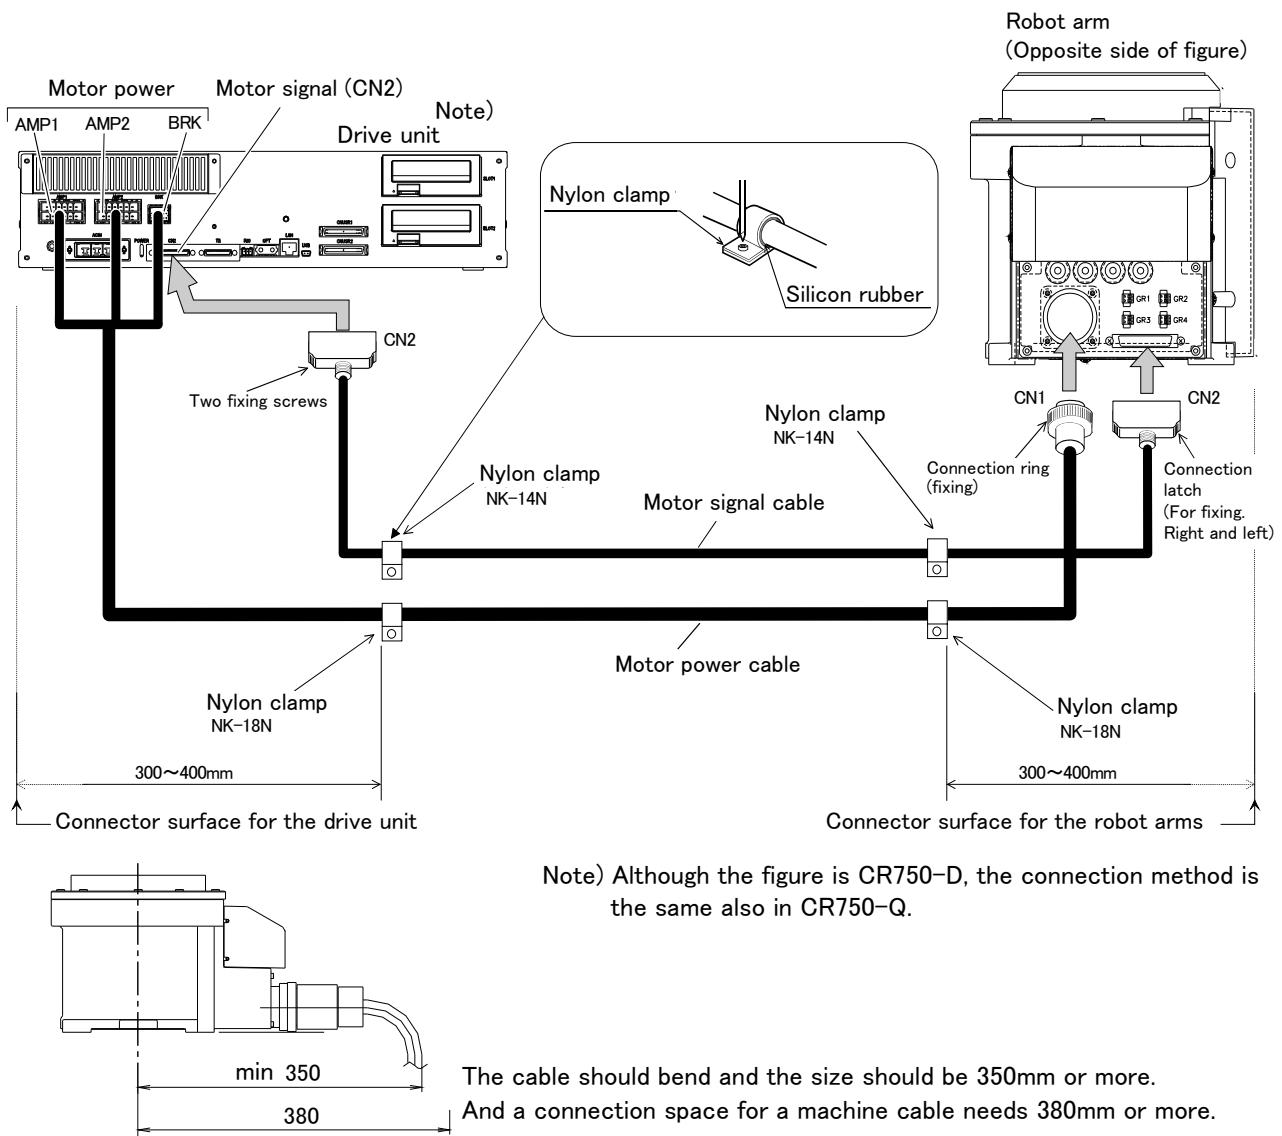

Fig.2-15 : Fixing the flexible cable (CR751)
- (1) Connect the connector to the robot arm.
- (2) Wind the silicon rubber around the cable at a position 300 to 400 mm from the side of robot arm and drive unit as shown in Fig. 2-13 (CR750: standard specification), Fig. 2-14 (CR750: CE Marking/KC mark specification) or Fig. 2-15 (CR751), and fix with the nylon clamp to protect the cable from external stress.